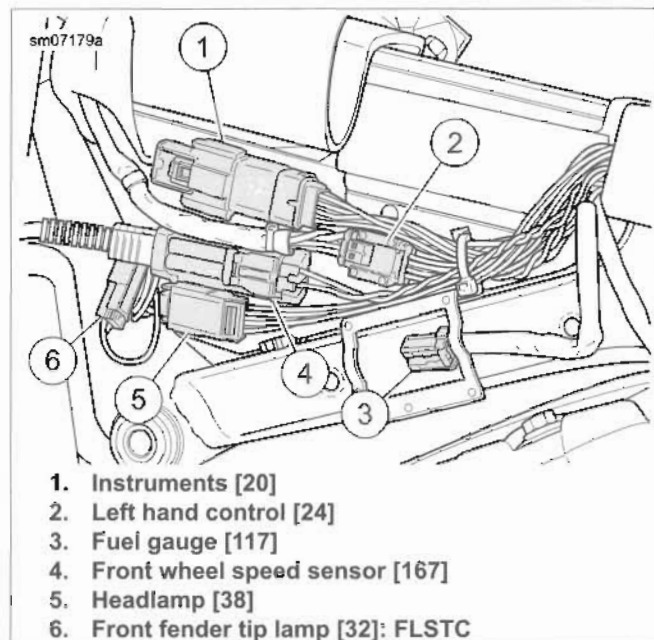
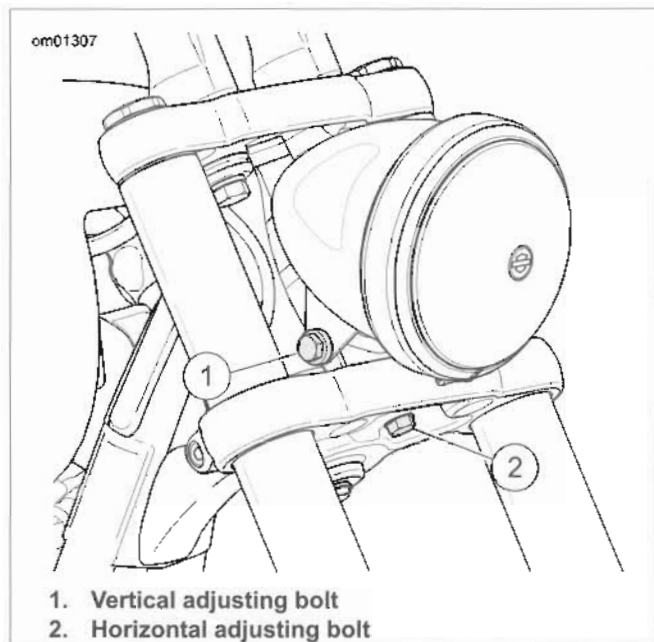

Figure 7-31. Under Fuel Tank Left Side
Figure 7-32. Headlamp Adjustment (typical)
2. See Figure 7-31. Disconnect headlamp connector (5).
3. **Fender tip lamp equipped:** disconnect front fender tip lamp connector (6).
5. See Figure 7-32. Remove horizontal adjusting bolt (2) and headlamp assembly.
1. See Figure 7-32. Install headlamp assembly with horizontal adjusting bolt (2).
3. **Fender tip lamp equipped:** see Figure 7-31. Connect front fender tip lamp connector (6).
4. Connect headlamp connector (5).